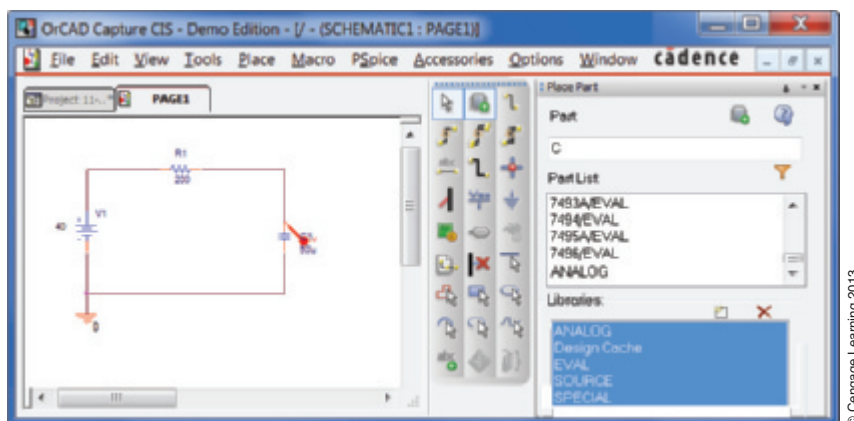

FIGURE 11–45 PSpice example. The voltage marker displays voltage with respect to ground, which, in this case, is the voltage across C_1 .
- Create the circuit on the screen as in Figure 11–45—see Note 4. Remember to rotate the capacitor as discussed in Appendix A, then set its initial condition
(IC) to zero. To do this, double-click the capacitor symbol, type **0V** into the Property editor cell labeled IC —see Note 2—click *Apply*, then close the editor. Click the *New Simulation Profile* icon, enter a name (e.g., **Figure 11–45**) then click *Create*. In the *Simulation Settings* box, click the *Analysis* tab, select *Time Domain (Transient)* and in *Options*, select *General Settings*. Set the duration of the transient ($TSTOP$) to 50ms, then click *OK*. Find the voltage marker on the toolbar and place as shown. (It will be gray, but will change color after the simulation is run.)